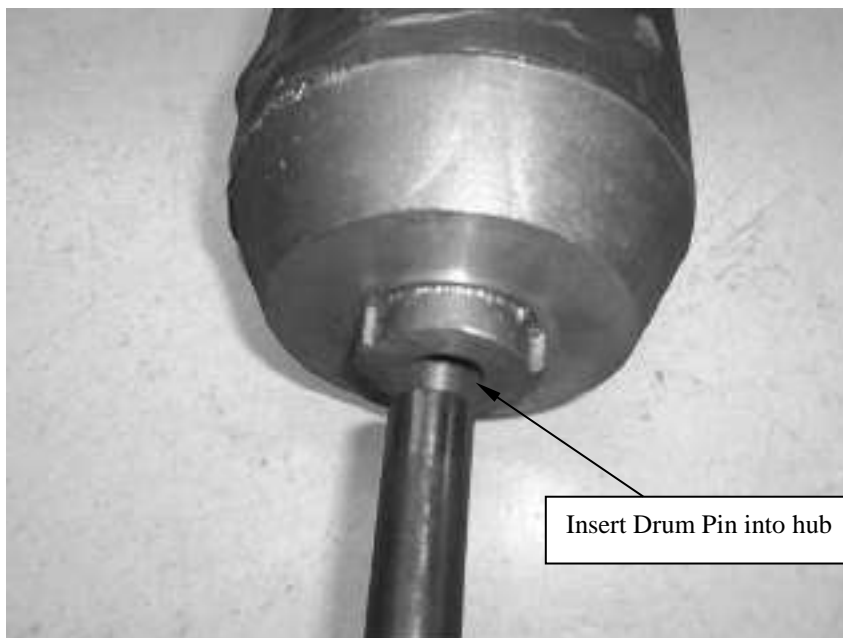

Fig 4
5. Secure the Pin into the hub by tightening down the 2 set screws in the hub with a 3/32" (2mm) hex-head wrench. (Fig 4)